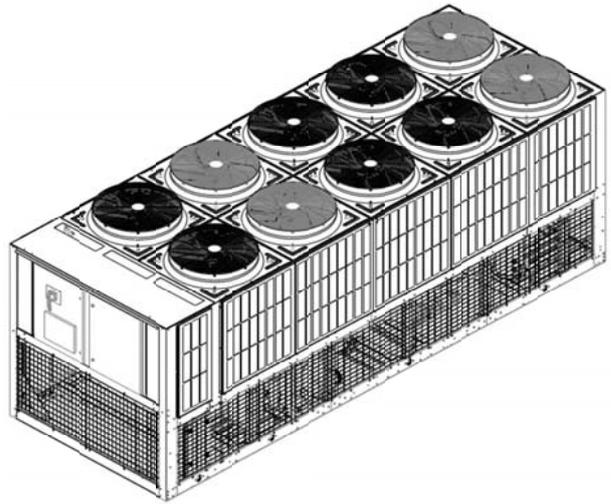

FIG. 5 – LOUVERED/WIRE PANELS COMBINATION
**LOUVERED/WIRE PANELS COMBINATION** - Louvered panels, painted the same colour as the unit, are mounted on external condenser coil faces. Heavy gauge, welded wire-mesh panels, coated to resist corrosion, are mounted around base of machine to restrict unauthorized access. See Figure 5.